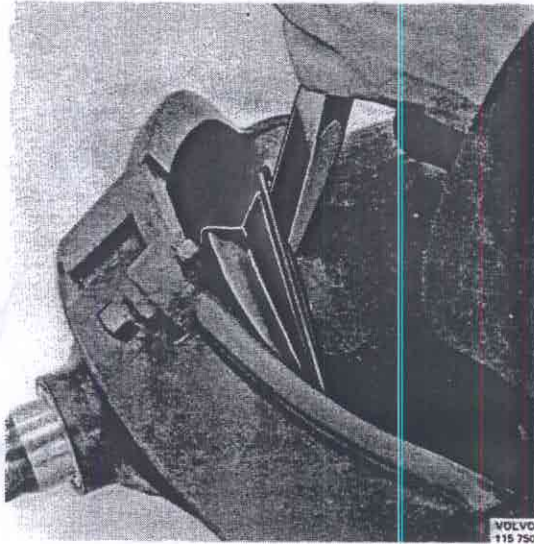

Fig. 46-78. Removing the rubber dust cover
2. Remove the rubber dust cover with a suitable tool, Fig. 46-78.